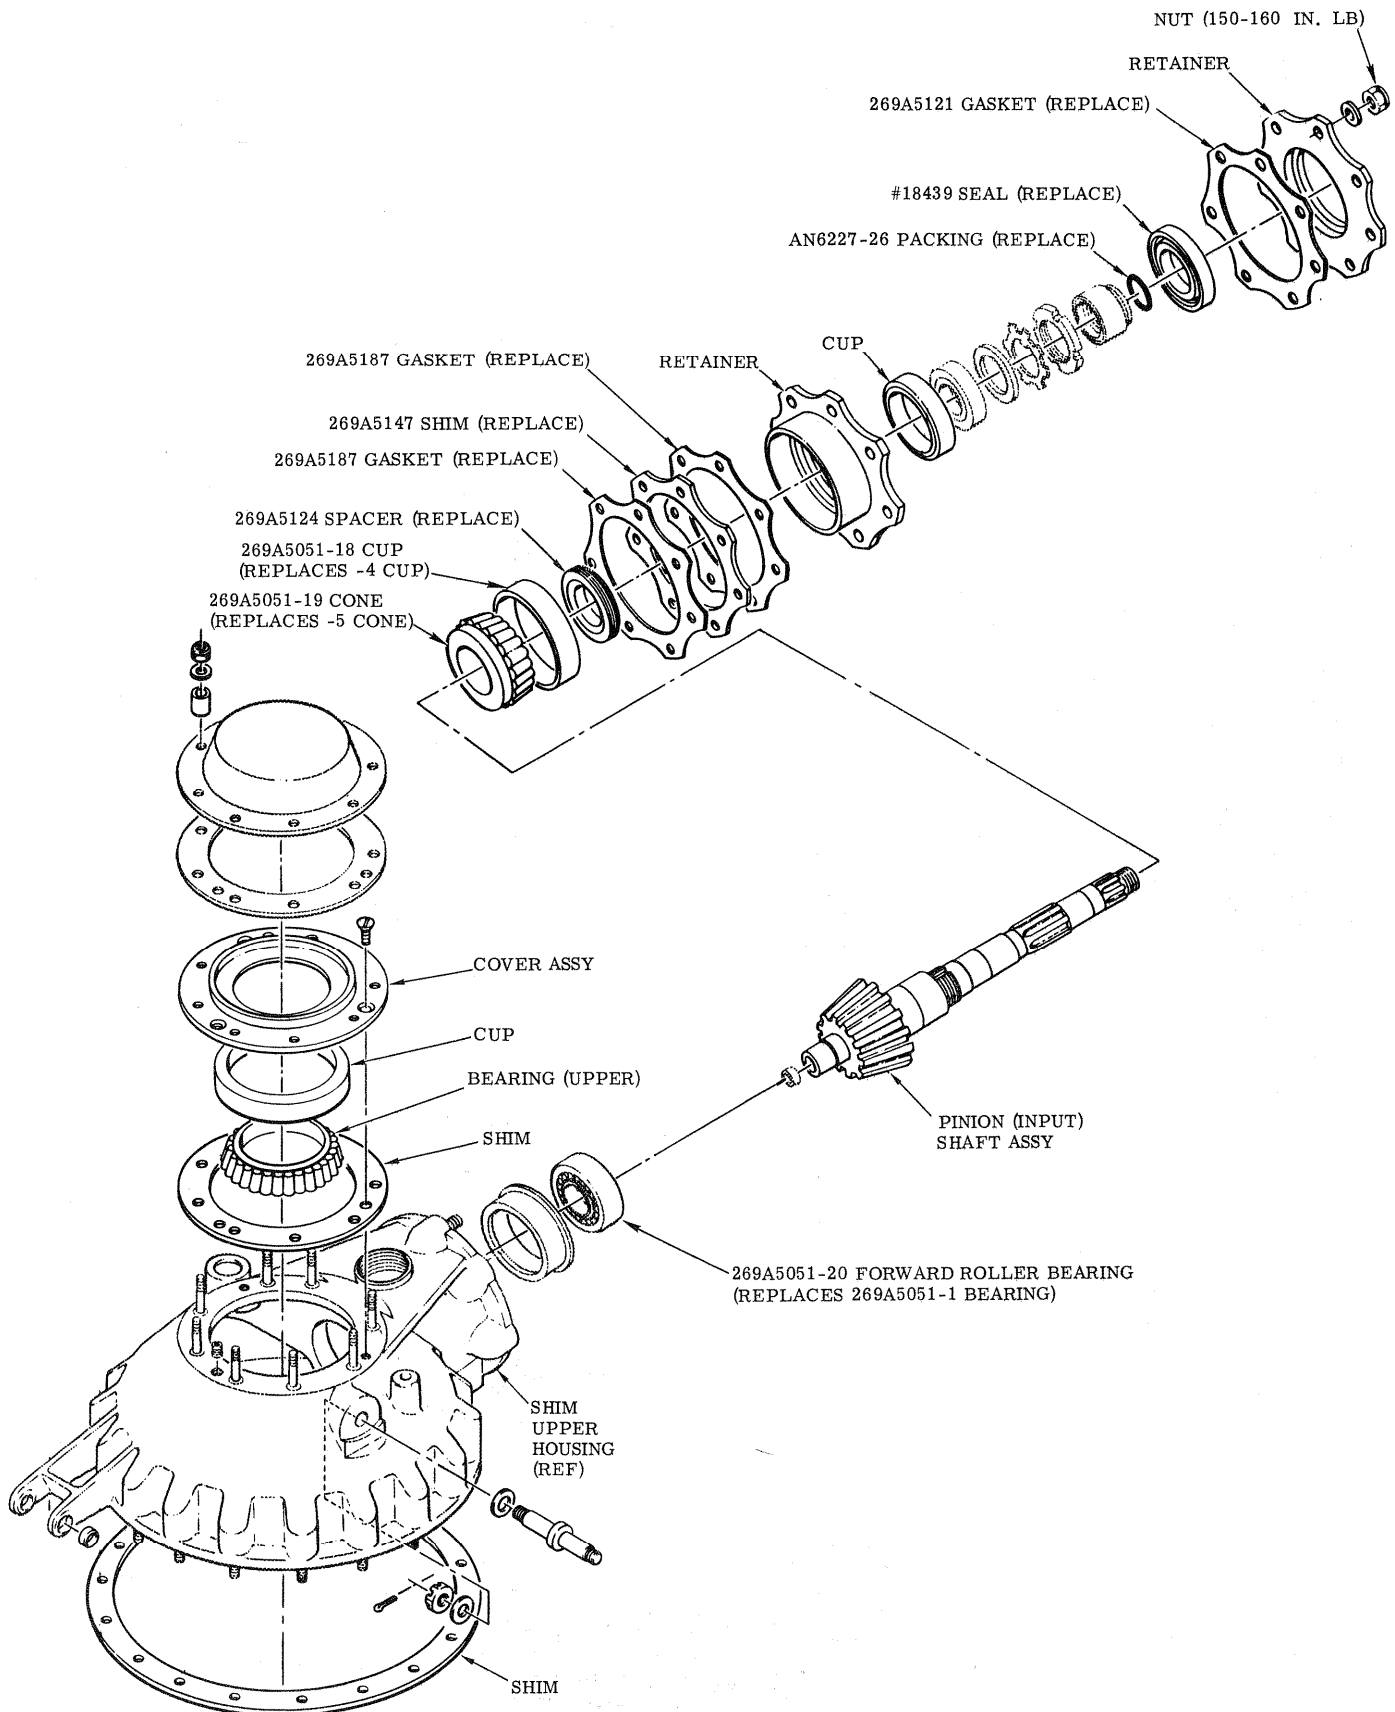

FIGURE 1. KIT INSTALLATION M10062-5 - INPUT PINION BEARING REPLACEMENT.
- f. Measure and reassemble main gearbox pinion assembly (Section I, HMI Appendix C); install new components as follows (See Figure 1):
g. Reassemble main gear drive upper housing (Section I, HMI Appendix C); install new 260A5051-20 forward roller bearing as replacement for existing 269A5051-1 bearing (See Figure 1).